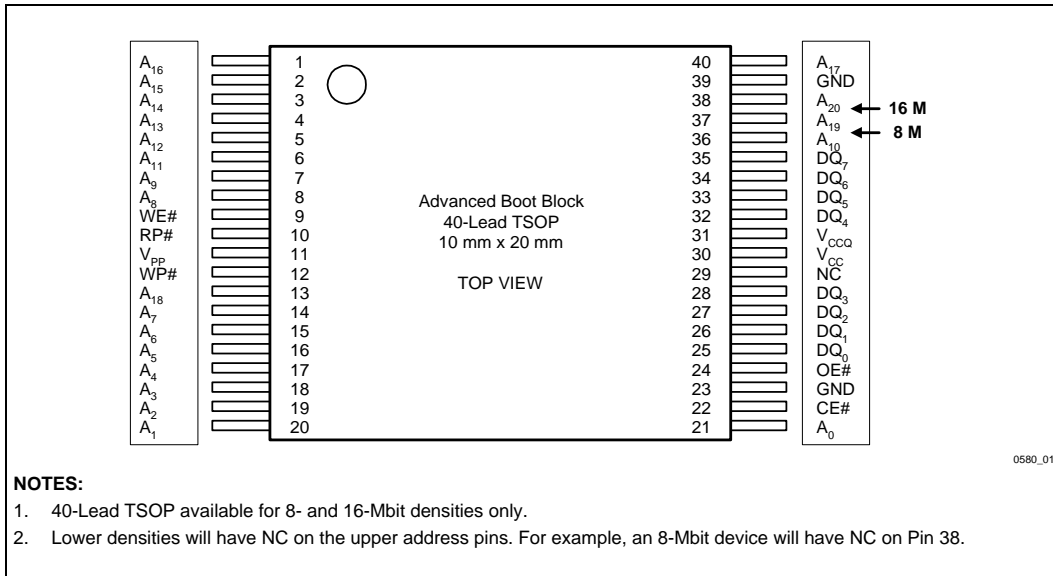
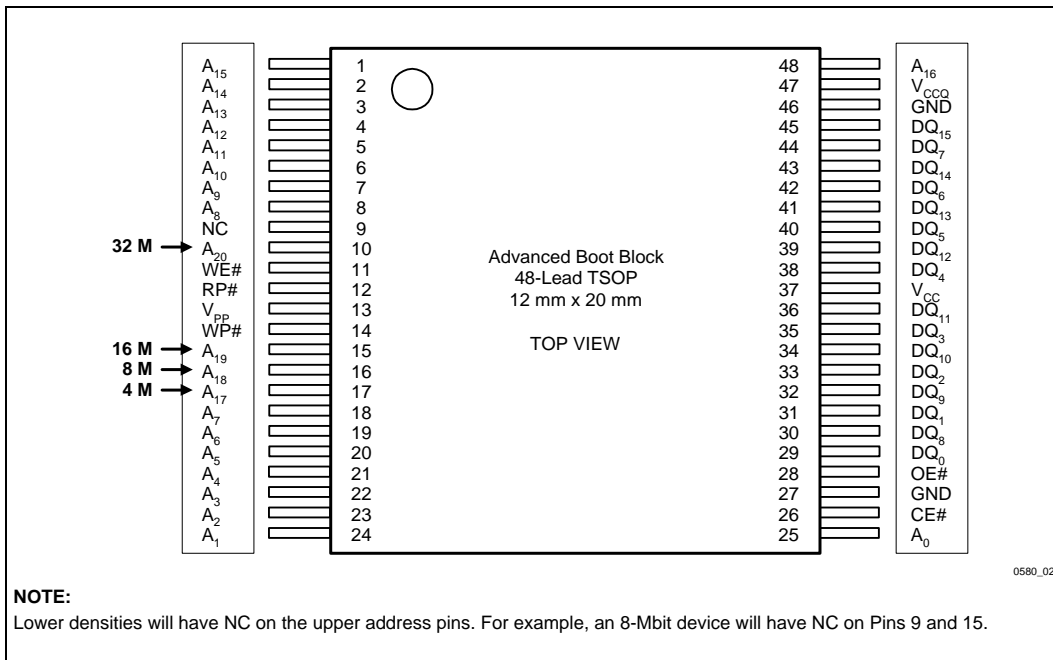

Figure 1. 40-Lead TSOP Package for x8 Configurations
Figure 2. 48-Lead TSOP Package for x16 Configurations
- V_{CCQ} input of 1.65 V–2.5 V on all I/Os. See Figures 1 through 4 for pinout diagrams and V_{CCQ} location
The Smart 3 Advanced Boot Block flash memory is available in 40-lead TSOP (x8, Figure 1), 48-lead TSOP (x16, Figure 2) and 48-ball μ BGA packages (x8 and x16, Figure 3 and Figure 4 respectively). In all figures, pin changes necessary for density upgrades have been circled.